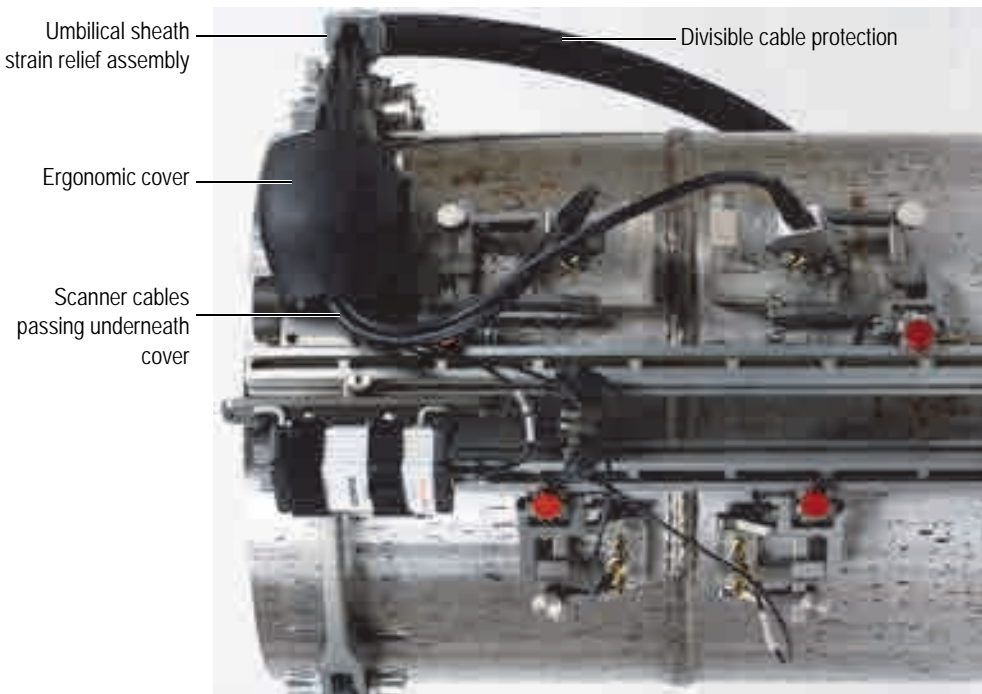

Figure 3-2 Cables passing underneath the module’s ergonomic cover (model equipped with Four-Probe kit shown)
10. Pass the probe cables and irrigation tubes under the module’s black ergonomic cover (see Figure 3-2 on page 51).